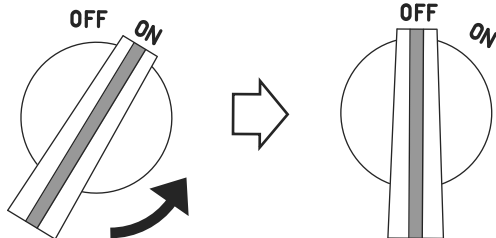

Fig.24
- 2 Turn the engine switch to the OFF position, then the engine stops. (Fig. 24)